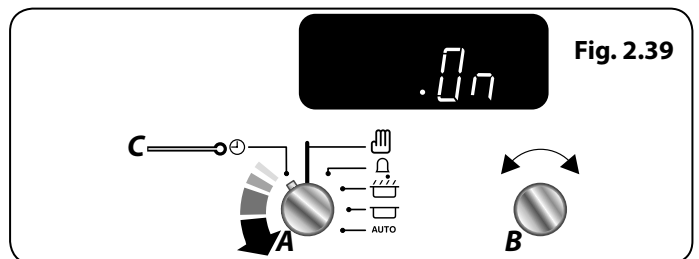

Fig. 2.39
2. Turn the **Timer (A)** knob to the **Clock (C)** setting and hold for approx 8 seconds. The display will show 'ON' (Fig. 2.39).